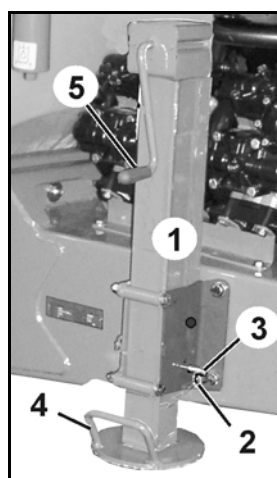

Fig. 52
- Stand raised during use or transportation (Fig. 52).
1. Loosen linchpin (Fig. 52/2).
2. Pull out pin (Fig. 52/3).
3. Raise/lower stand using handle (Fig. 52/4).
5. Using the manual crank (Fig. 52/5), continue to raise/lower the stand.